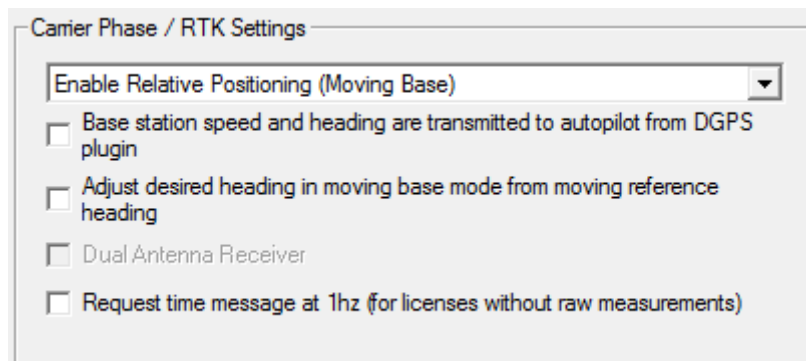

Figure 21 - NovAtel ALIGN Relative Positioning VRS Settings
2. In the Carrier Phase/RTK Settings section, select **Enable Relative Positioning (Moving Base)** as shown in Figure 21 - NovAtel ALIGN Relative Positioning VRS Settings.